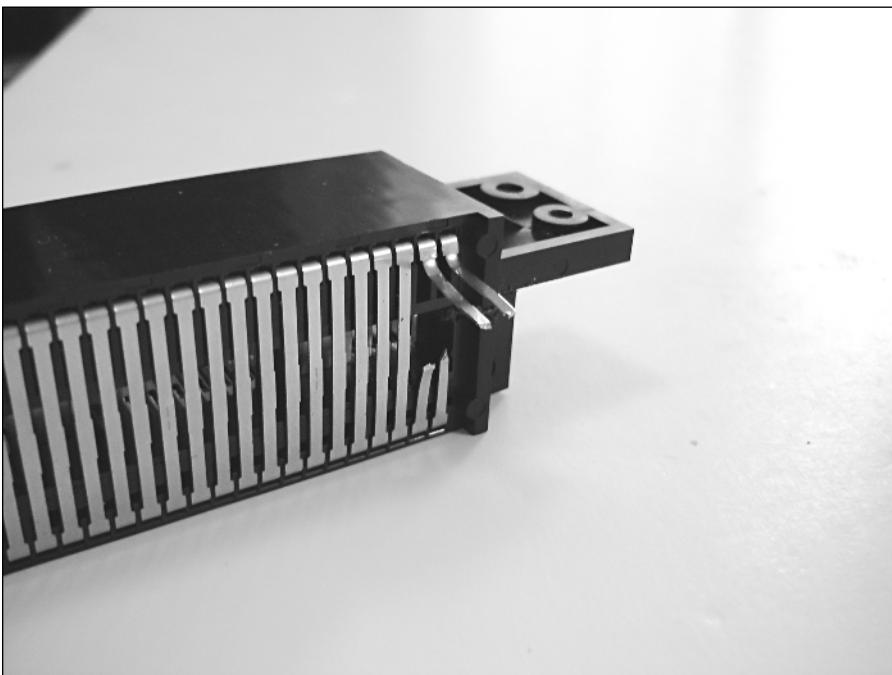

FIGURE 8-8: Snipping and bending the first set of pins.
6. It's now time to remove the first row of pins, the outer ones that are easy to get at. Use your cutters to snip each of the thirty-six outer pins, then bend them up using your tweezers or needle-nose pliers (Figure 8-8). The bent-out portion of each pin should be at least 1/4" long.